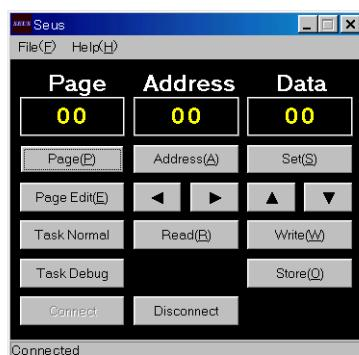

Fig. 6-2-1
- 6) Click [Connect] on the SEUS screen. If the connection is normal, the SEUS screen will be as shown in Fig. 6-2-1, indicating the “connected” state.